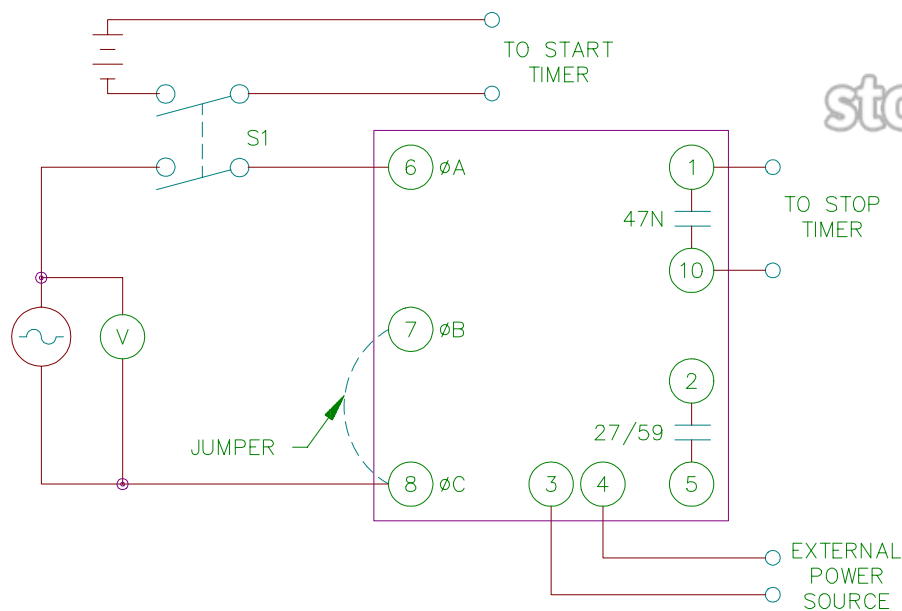

Figure 5-1. Test Circuit Diagram (47N)
STEP 2. Short or jumper input terminal #7 (phase B) to #8 (phase C) (Figure 5-1).
STEP 1. Connect the test setup as indicated in Figure 5-1.